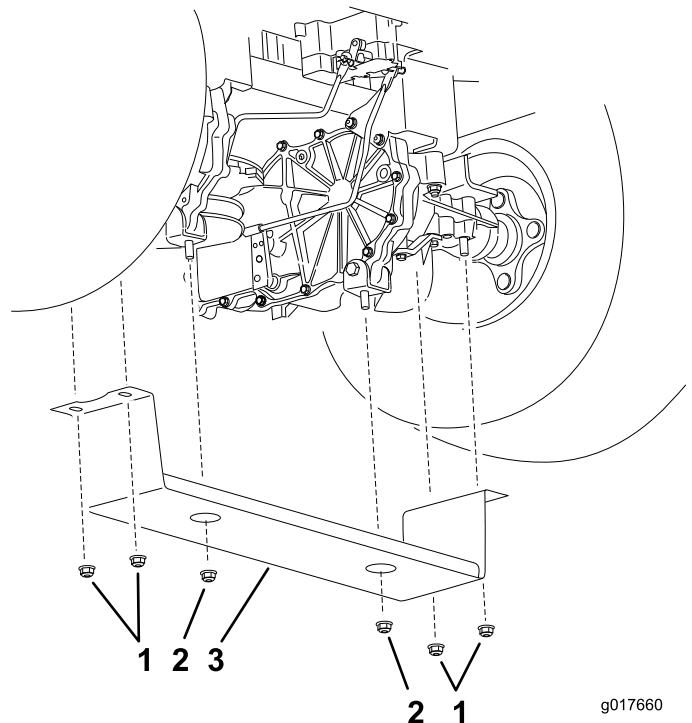

Figure 45
3. Remove the nuts holding the transaxle support in place (Figure 45).
4. Install the transaxle support. Refer to Figure 45 for the correct torque values for the nuts and bolts.
- Note:** Ensure the transaxle support is installed (Figure 45).